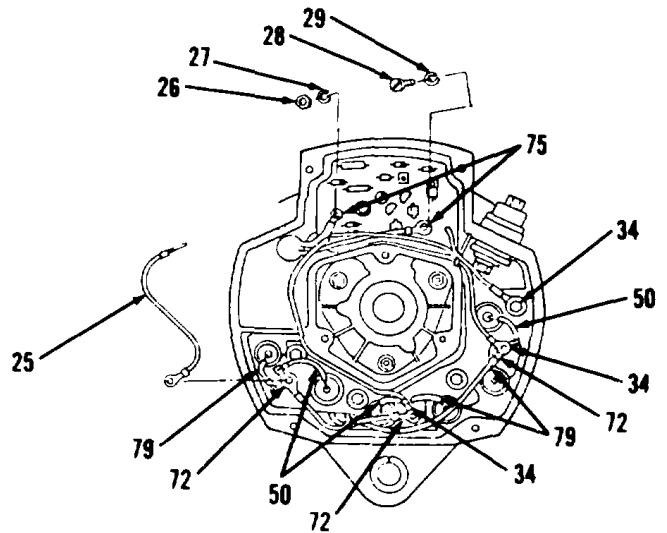

Figure 4-3.
- 42. Connect three negative diode wire assemblies (79, Figure 4-3) at terminals.
- 43. Connect three positive diode wire assemblies (50) at terminals.
- 44. Connect three stator wire assemblies (72) at terminals.
- 45. Connect three regulator wire assemblies (34) at terminals.
- 46. Connect two field coil wire assemblies (75) at terminals.
- 47. Install lockwasher (29) and screw (28).
- 48. Install lockwasher (27) and nut (26).
- 49. Connect wire assembly (25) at terminal.